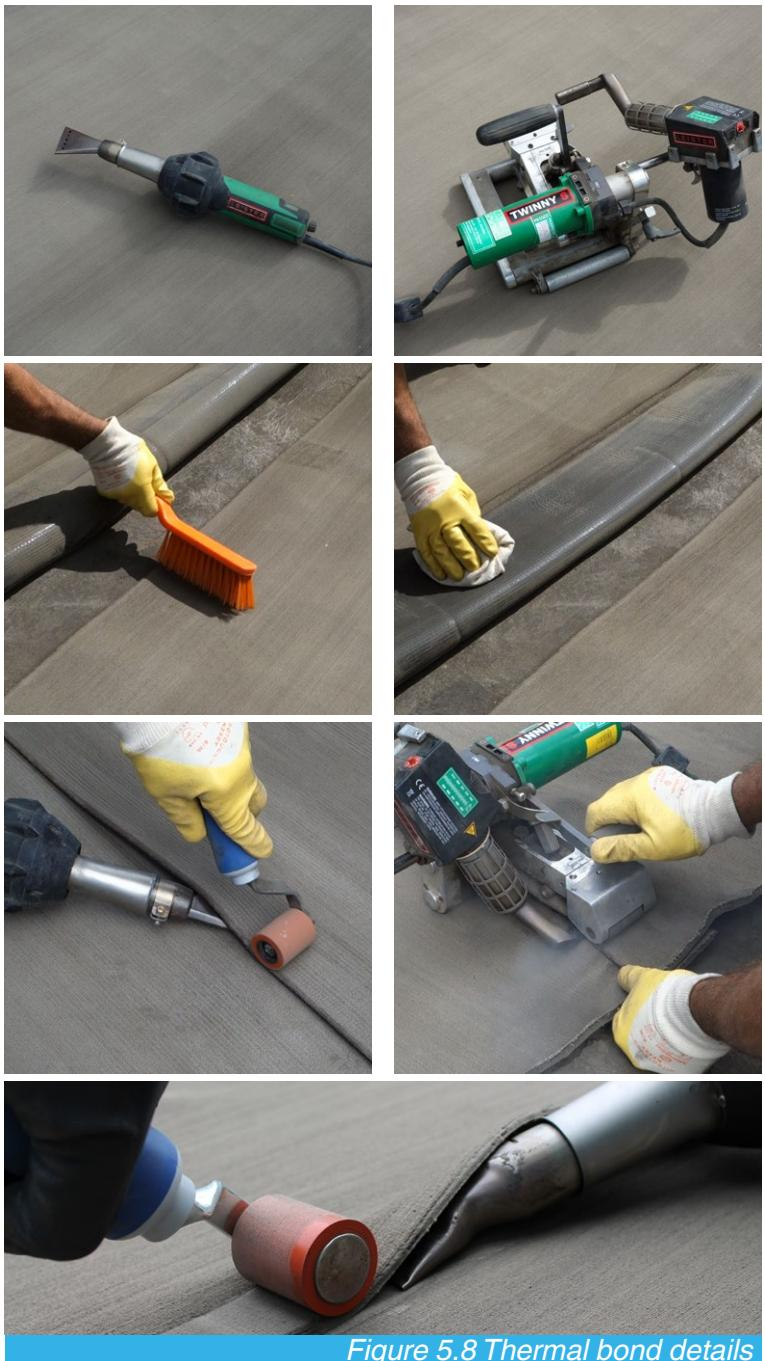

Figure 5.8 Thermal bond details
B) Bonding with a Hand-held heat gun: Once up to temperature, position the heat gun nozzle just inside the joint, with the nozzle perforations upper-most, directing the hot air onto PVC backing. Aim to bond the overlap along a strip nearest to the outside of the joint (see figure 5.8). Working your way from one end of the joint to the other, follow the welder with the 'Seam Roller' to apply pressure to the softened PVC and top fibres to form a bond. Weld rate is approximately 3'/min.